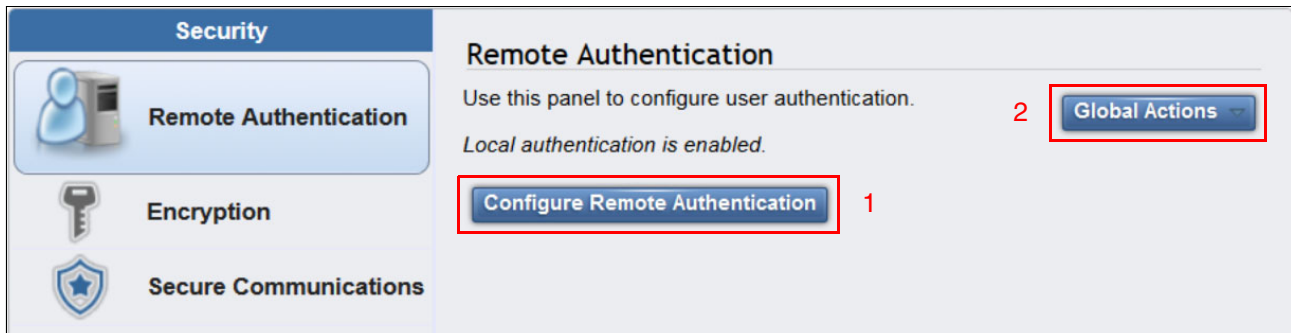

Figure 9-33 Remote Authentication panel
When remote authentication is configured, users authenticate with their domain user and password rather than a locally created user ID and password. Remote authentication gives you central access control. If someone leaves the company, you only need to remove access at the domain controller, which means that no orphan user IDs remain on the storage system. As shown in the Remote Authentication panel (Figure 9-33), click **Configure Remote Authentication** (1) to see choices and to launch the wizard. Click **Global Actions** to refresh the LDAP cache (2).